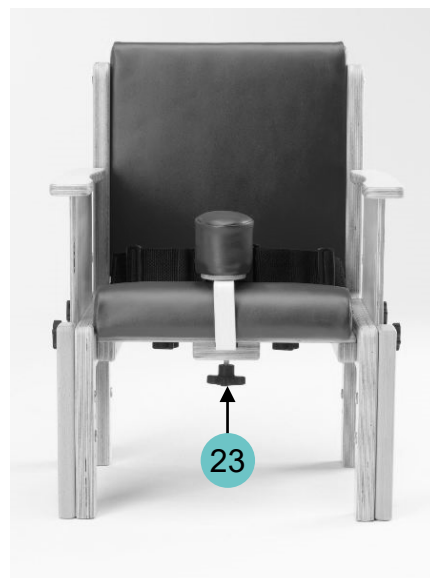

Figure 21
- To adjust the depth of the knee blocks, loosen the handwheel located underneath the chair (Ref. 23 of Figure 21).
- The pommel fits under the seat and is adjusted in and out by clamping with the handwheel (Ref. 23 of Figure 21).
- Figure 21).